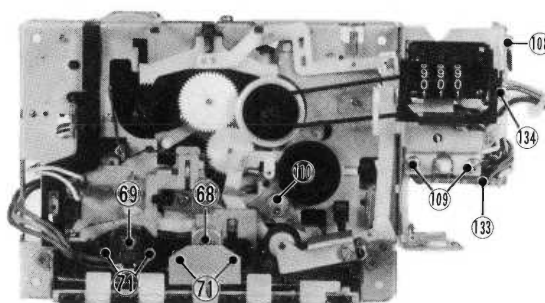

Fig. 28
5. REC/PB head (Fig. 28)
6. Erase head (Fig. 28)
8. Mecha. control P.W.B. and Auto Stop P.W.B. (Fig. 28)